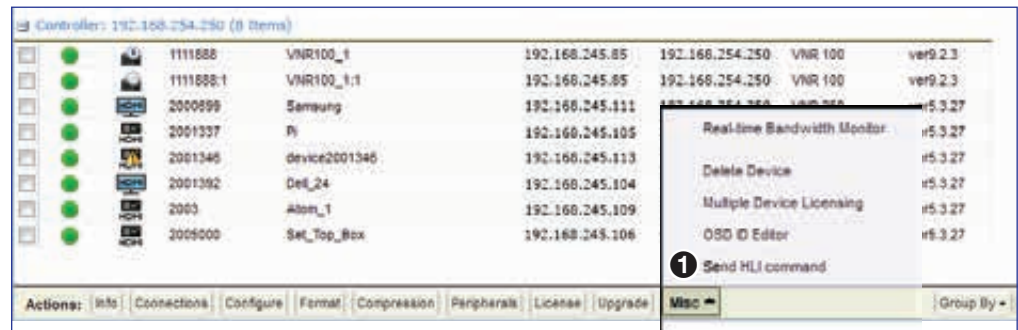

Figure 154. Misc Menu — Select “Send HLI Command”
A menu list opens (see figure 154).
4. Select **Send HLI command** (see figure 154, ①). A HLI command window opens (see figure 155).